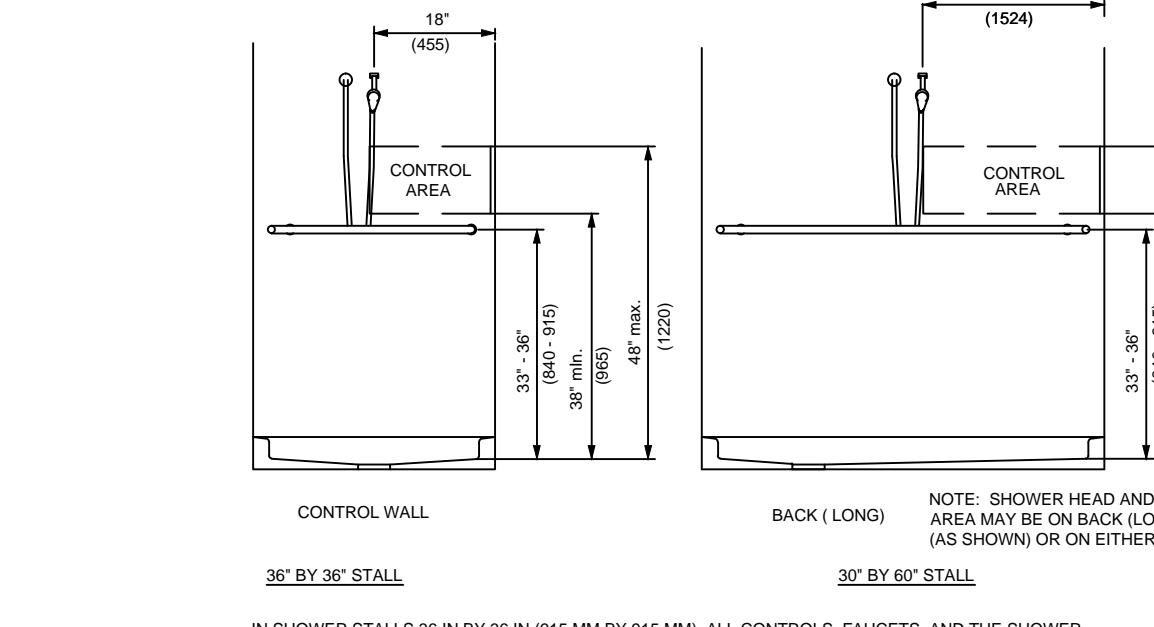

FIGURE 9B
5. TWO ACCESSIBLE PARKING SPACES MAY SHARE A COMMON ACCESS AISLE (SEE FIG. 9B).